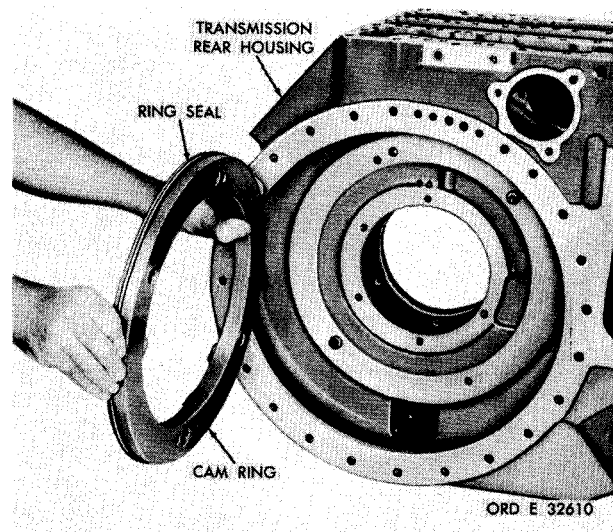

Figure 191. Removing (or installing) right-brake apply cam stationary ring
*C2 au. Remove right-brake apply cam stationary ring (fig. 191). Do not remove ring seal and expander from ring, unless replacement is necessary.
*C2 b. If ring seal and expander were removed from right-brake apply cam stationary ring, install new replacements (fig. 191).
c. Install rightbrake apply cam stationary ring in the transmission rear housing (fig. 191).